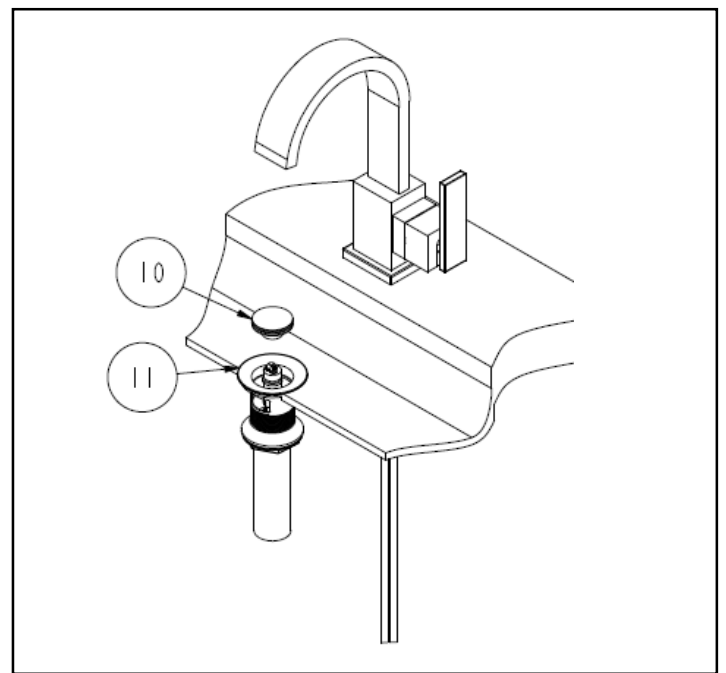

Figure 4
4. Apply thread sealant to STOPPER (10) and attach to DRAIN ASSEMBLY (11) See Figure 4.